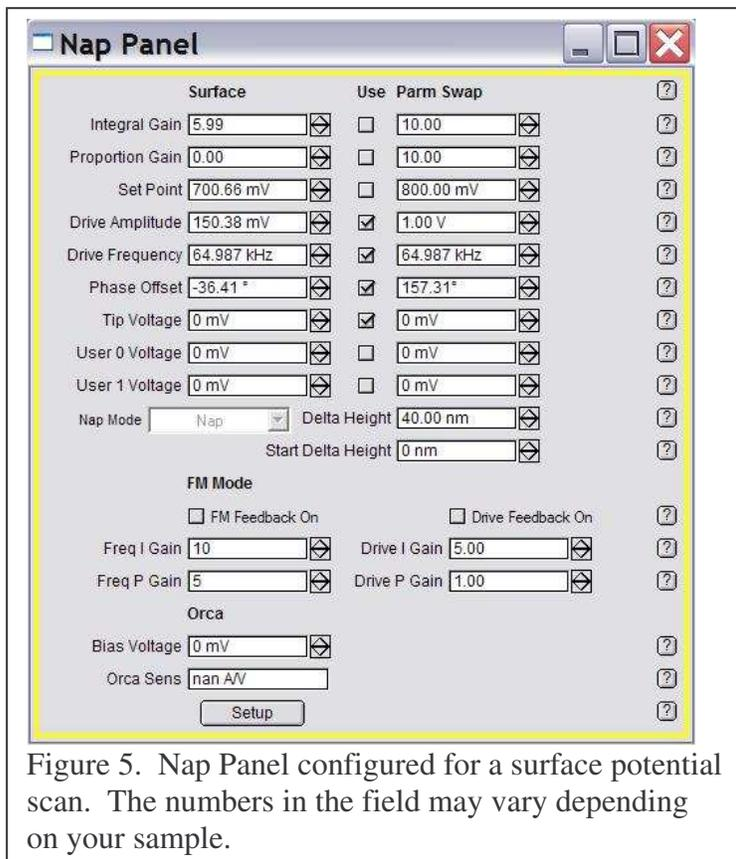

Figure 5. Nap Panel configured for a surface potential scan. The numbers in the field may vary depending on your sample.
12. Select Drive amplitude, Drive Frequency, and Phase Offset under the use column. See Fig. 5.